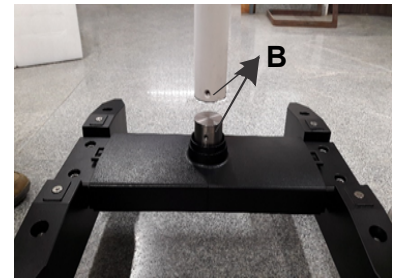

Fig. 11
7.1 Open the Microscope Box. Remove pillar (Column) from the box. Engage this column onto the shaft matching the guide holes on column and shaft, as shown as B in Fig. 11.